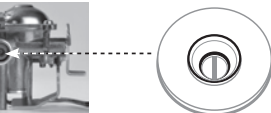

Fig. 2
1. Check that the control knob (8) is set to position ● by turning it clockwise and the cartridge lever (6) is set to "UNLOCK".
2. Open the cartridge cover (2) and insert the cartridge, with the head to the front, so the notch points upwards and aligns in the value guide (fig.2).